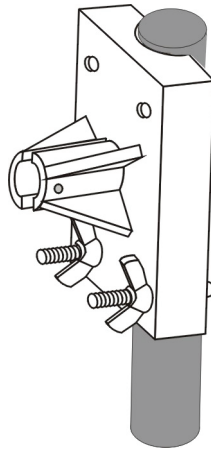

Figure 11: Installing the Anemometer base
- A. Hold the anemometer base against the top end of the pipe and insert one U-bolt through the back of the base into the two lower holes in the base so that the U-bolts wrap around the pipe (see Figure 11)